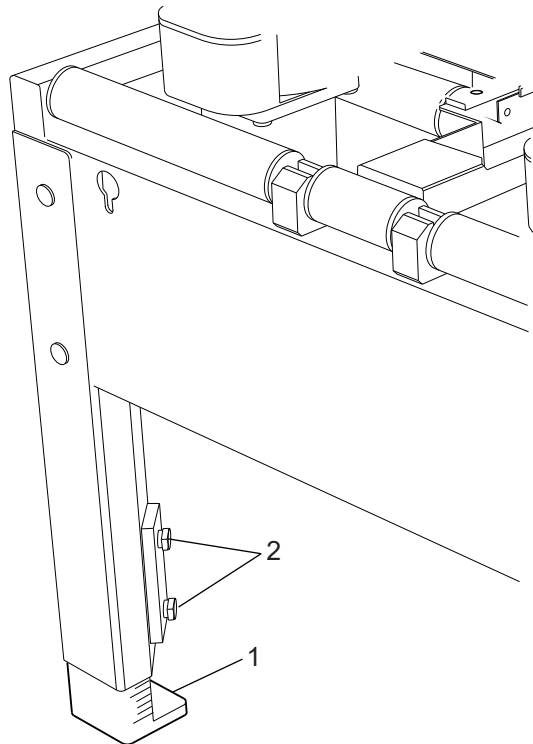

Figure 8 Adjustable legs
- Use adjustable legs (figure 8) to adjust machine height and level. Machine height should be adjusted to incoming conveyor height.